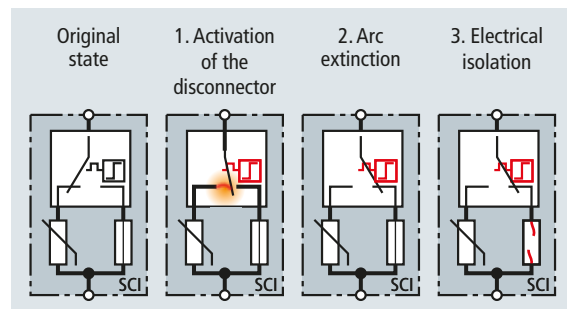

Figure 7 Switching phases of the three-step d.c. switching device integrated in DEHNguard M YPV SCI ... (FM)
With their integrated SCI technology, DEHNcombo YPV SCI (FM) combined arresters (Figure 6) fulfil the above mentioned requirements. In addition to the proven fault-resistant Y circuit, DEHNcombo YPV SCI (FM) features a three-step d.c. switching device (SCI technology). This d.c. switching device consists of a combined disconnection and short-circuiting device with Thermo Dynamic Control and a fuse in the bypass path. This circuit (Figure 7) safely disconnects the arrester from the generator voltage in case of an overload and reliably extinguishes d.c. arcs. Thus, DEHNcombo YPV SCI (FM) allows to protect PV generators up to 1000 A without additional backup fuse. This arrester combines a lightning current arrester and a surge arrester in a single device, thus ensuring efficient protection of terminal equipment. With its discharge capacity I_{total} of 12.5 kA (10/350 μ s), it can be flexibly used for the highest classes of LPS. DEHNcombo YPV SCI (FM)